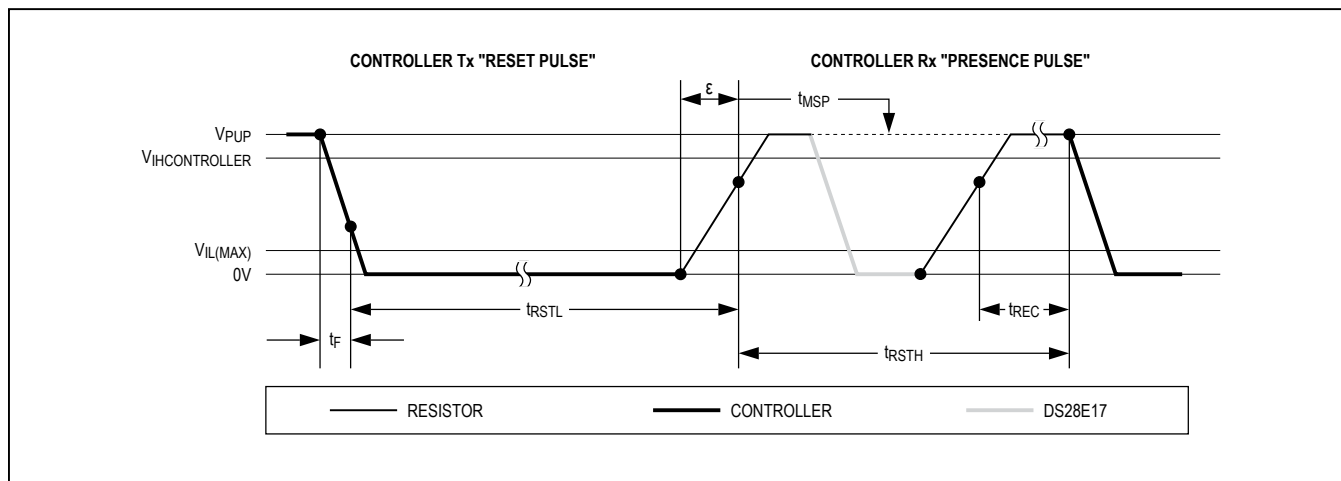

Figure 5. Initialization Procedure: Reset and Presence Pulse
**Note 12:** ε in Figure 5 represents the time required for the pullup circuitry to pull the voltage on IO up from VIL to VIH. The actual maximum duration for the controller to pull the line low is tW1LMAX + tF - ε and tW0LMAX + tF - ε, respectively.
from active to idle, the voltage needs to rise from below  $V_{ILMAX}$  to above  $V_{IHMIN}$ . The time it takes for the voltage to make this rise is seen in Figure 5 as  $\epsilon$ , and its duration depends on the pullup resistor ( $R_{PUP}$ ) used and the capacitance of the 1-Wire network attached. The voltage  $V_{ILMAX}$  is relevant for the DS28E17 when determining a logical level, not triggering any events. For more information on the capacitance of a 1-Wire network, refer to Application 6208: *Extending I2C Communication Distance with the DS28E17*.
Figure 5 shows the initialization sequence required to begin any communication with the DS28E17. A reset pulse followed by a presence pulse indicates that the DS28E17 is ready to receive data, given the correct ROM and Device command. If the bus controller uses slew-rate control on the falling edge, it must pull down the line for  $t_{RSTL} + t_F$  to compensate for the edge. A  $t_{RSTL}$  duration of 480 $\mu$ s or longer exits the overdrive mode, returning the device to standard speed. If the DS28E17 is in overdrive mode and  $t_{RSTL}$  is no longer than 80 $\mu$ s, the device remains in overdrive mode. If the device is in overdrive mode and  $t_{RSTL}$  is between 80 $\mu$ s and 480 $\mu$ s, the device resets, but the communication speed is undetermined.